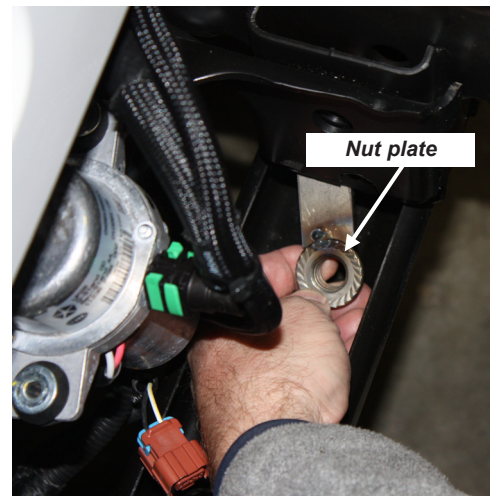
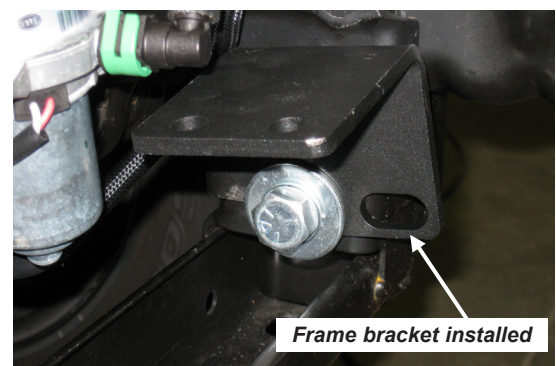

Figure 11
Figure 12
10. Install the Frame Brackets. The brackets are the same. Use 5/8 X 1-1/2" bolts and flat washers through the rear slot. Use the 5/8" nutplates inside the frame. Figure 11. Position them as shown in Figures 12. Do not tighten yet.